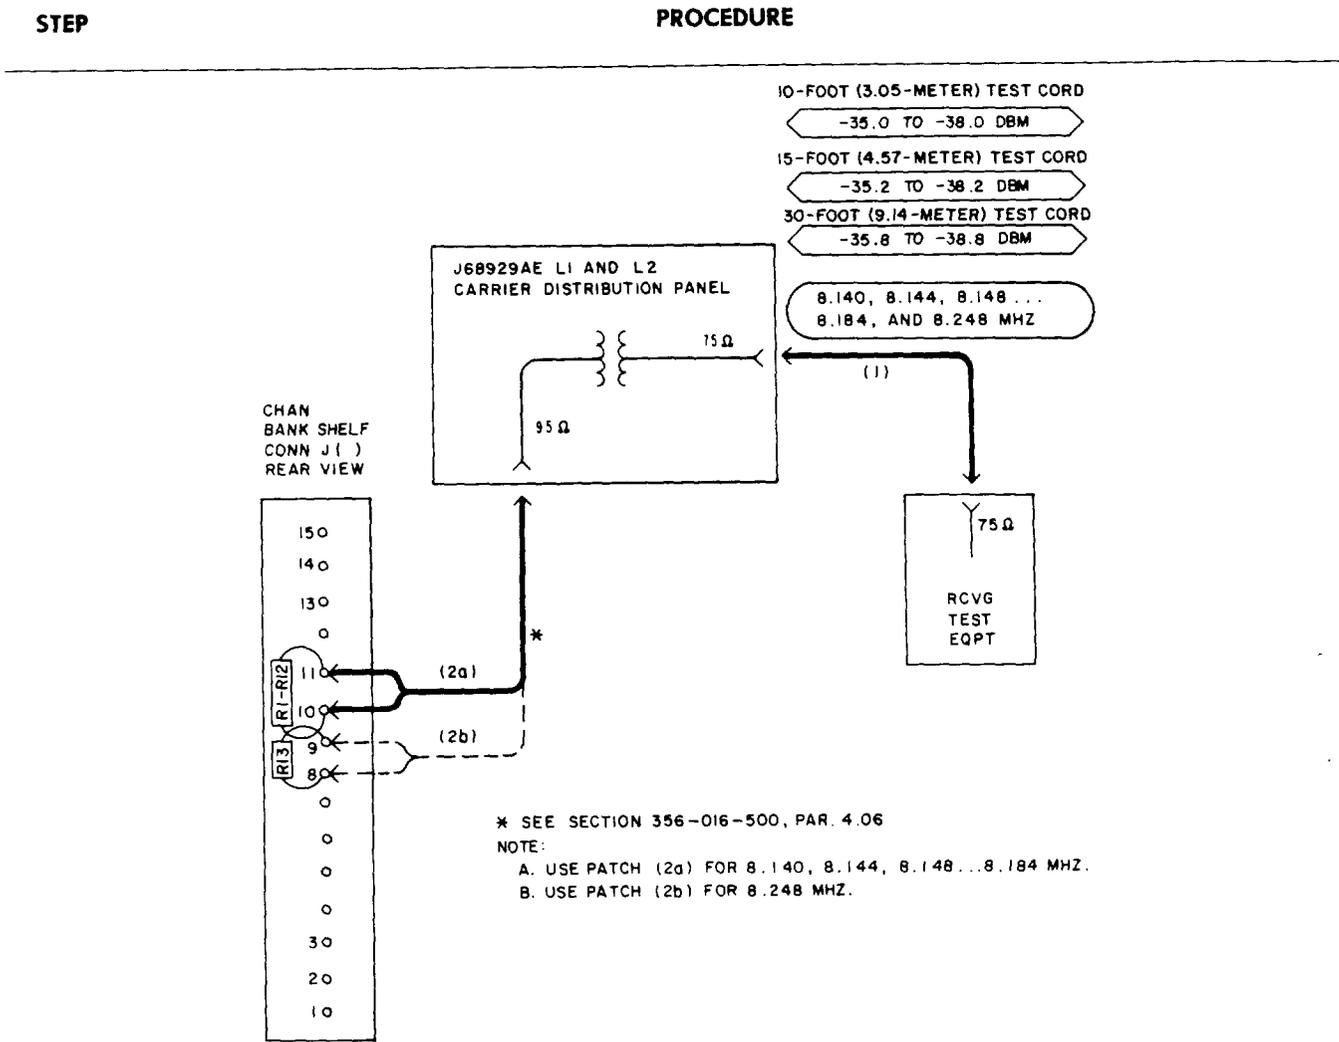

Fig. 9—Patching Diagram—Carrier-Distribution Test—Regular Carrier Supply
41 At the rear of the A6 channel bank shelf selected in Step 39, connect the 95Ω jack to pins 10 and 11 of the Channel 1 plug-in-unit jack (J2) [Table C and patch (2a), Fig. 9]. (See Section 356-016-500, paragraph 4.06, for special cord construction.)
**Note:** These frequencies are on pins 10 and 11 of channel bank shelf connectors J3, J4, J5, ... J13 [Table C and patch (2a), Fig. 9].
45	Remove patch (2a), Fig. 9.
46	Connect the 95Ω jack to pins 8 and 9 of J14 [Table C and patch (2b), Fig. 9].
48	Remove patches (1) and (2), Fig. 9.